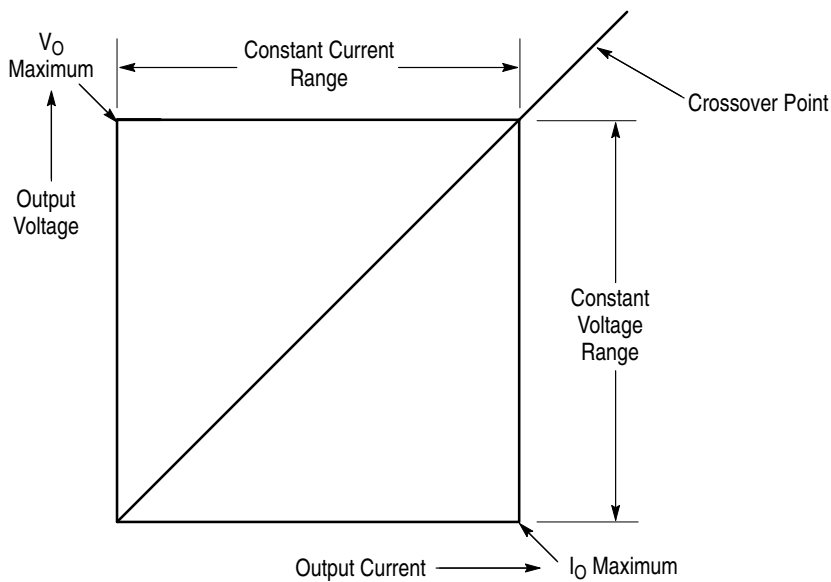

Figure 3: Constant Voltage/Constant Current Crossover
11. **C.C. Indicator.** If this is lighted, the left variable power supply is producing a constant current. See Figure 3 on page 10 for an illustration of the constant voltage/constant current cross-over point.
12. **C.V. Indicator.** If this is lighted, the left variable power supply is producing a constant voltage. See Figure 3 on page 10 for an illustration of the constant voltage/constant current cross-over point.
18. **C.C. Indicator.** If this is lighted, the power supply is producing a constant current. See Figure 3 on page 10 for an illustration of the constant voltage/constant current crossover point.
19. **C.V. Indicator.** If this is lighted, the power supply is producing a constant voltage. See Figure 3 on page 10 for an illustration of the constant voltage/constant current crossover point.
The PS280 or PS283 DC Power Supply features a constant voltage/constant current automatic crossover. This feature permits continuous operation in the transition from constant-voltage mode to constant-current mode as the load changes. The intersection of the constant-current and constant-voltage modes is called the crossover point. Figure 3 on page 10 shows the relationship between the load and the crossover point.